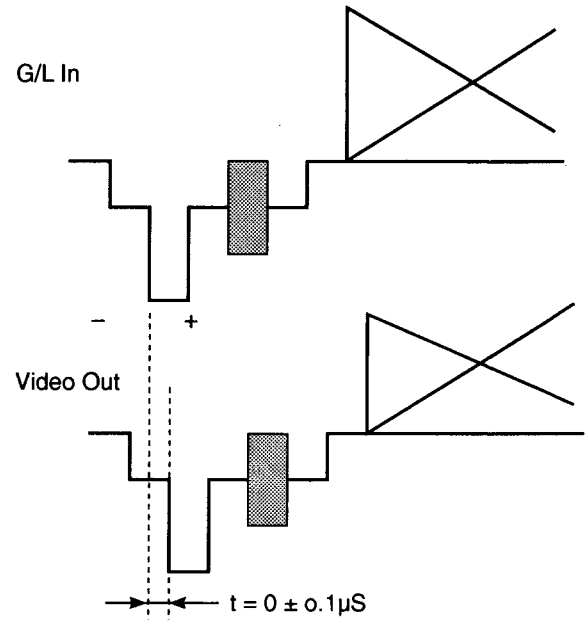

Fig. 5-4
- Adjust data with the **ARROW** keys so that the Video Out signal coincides to the G/L In signal as shown in Fig. 5-4.